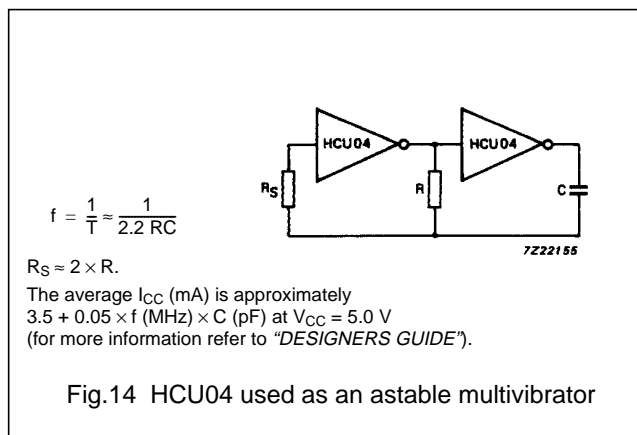

Fig.14 HCU04 used as an astable multivibrator
- Astable multivibrator (see Fig.14)